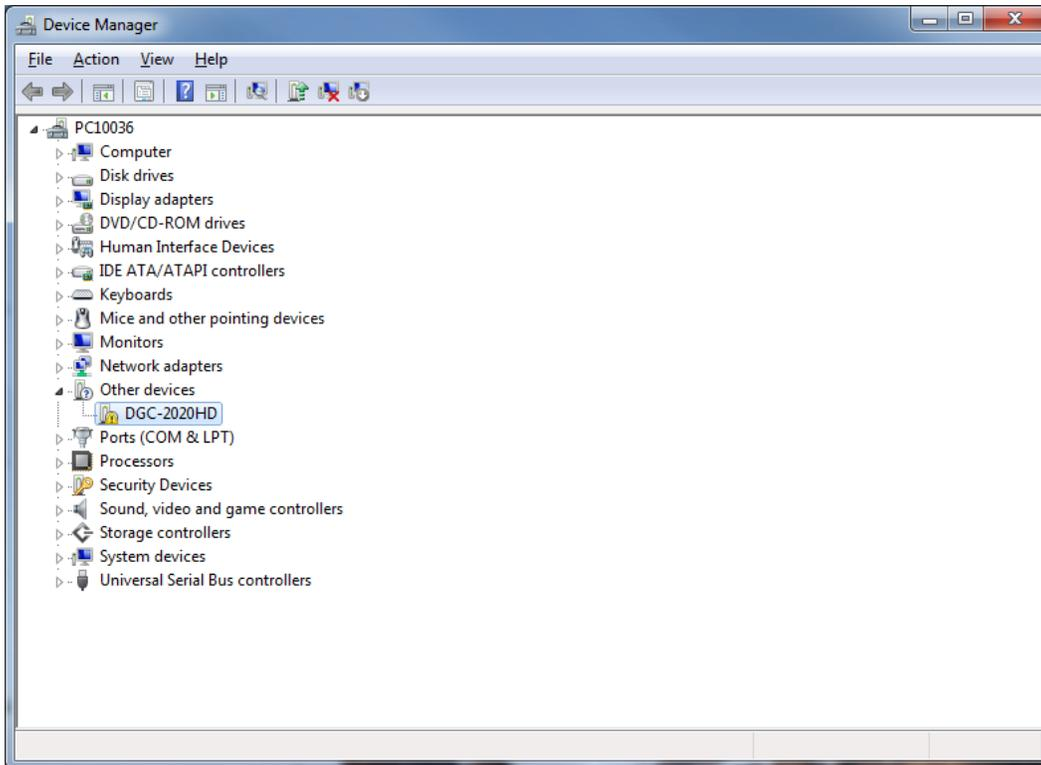

Figure 24-2. Device Manager
- Step 2. Open the Windows® Device Manger as shown in Figure 24-2. Right-click on DGC-2020HD (or Unknown Device) under Other Devices and select Properties.